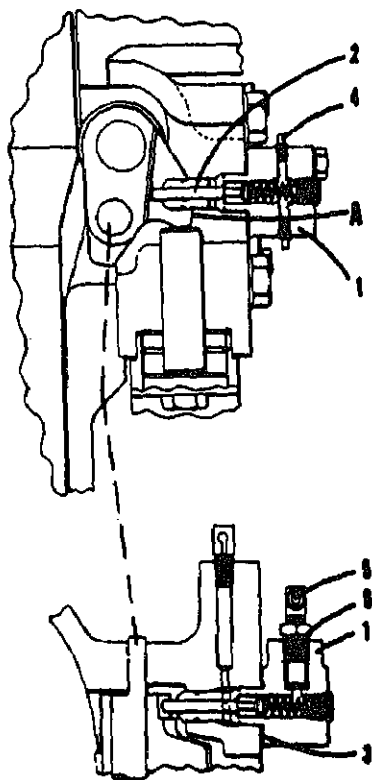

FIG. 11-14
The pumps are operated by the same bell crank assembly that operates the fuel pump. As the ram falls the bell crank moves the lube oil pump plunger Fig. 11-14, forcing a small amount of lube oil past a check valve in the pump and delivers the oil to the cylinder.
- (b) Loosen and remove pipe plug (4), Fig. 11-14 on top of lube pump.
- (b) Adjust pump flow to one drop (each pump) per stroke. To increase pump delivery remove shims Fig. 11-14, from beneath the lube pumps. This will increase the length of lube oil pump plunger stroke. To decrease pump delivery and lube oil discharge, add shims. Do not remove lube pumps when shimming. Only remove capscrews and add or subtract shims by sliding in or out as required.